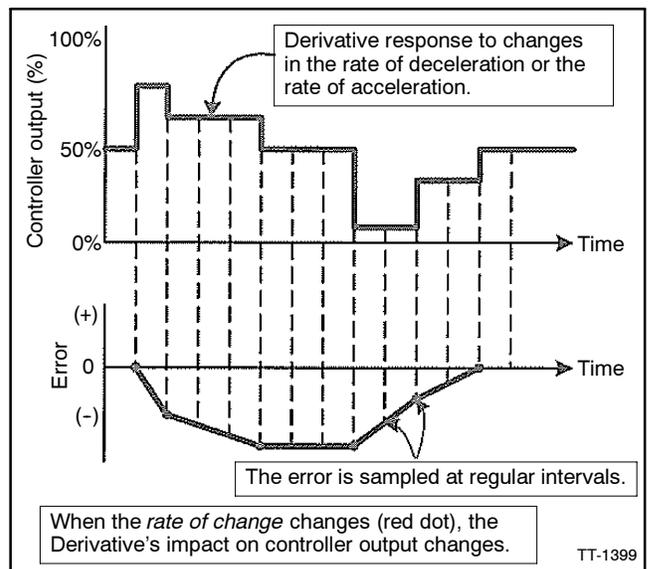

Figure 12 Derivative Value
7. **Derivative.** Enter the value from the Governor Parameter Summary. See Figure 12.